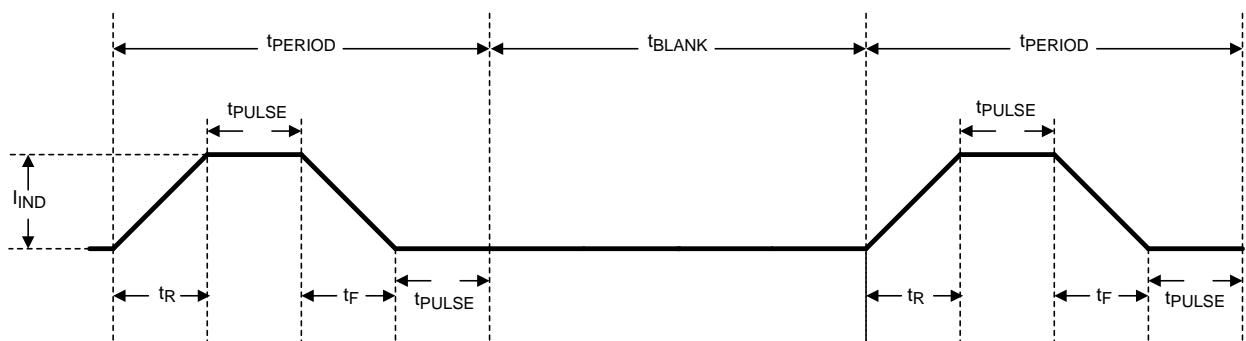

Figure 44. Message Indicator Timing Diagram
3. Ramp times for turn-on and turn-off of the indicator current source (see Figure 44 for the message indicator timing diagram).
– (see Figure 44)